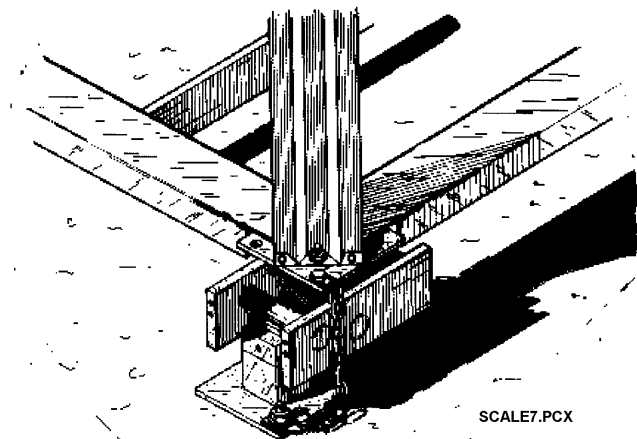

Figure 56. Setting Bin Legs on Scale Framing
1. Raise the bin onto the Main Stands of the Scale. Use the Leg Anchor Plate provided with the bin plus a 5/8" heavy washer at each leg to secure the bin to the Main Stands. Attach the Safety Chain to the Upper Main Stand at each leg. (See **Figure 56**.)